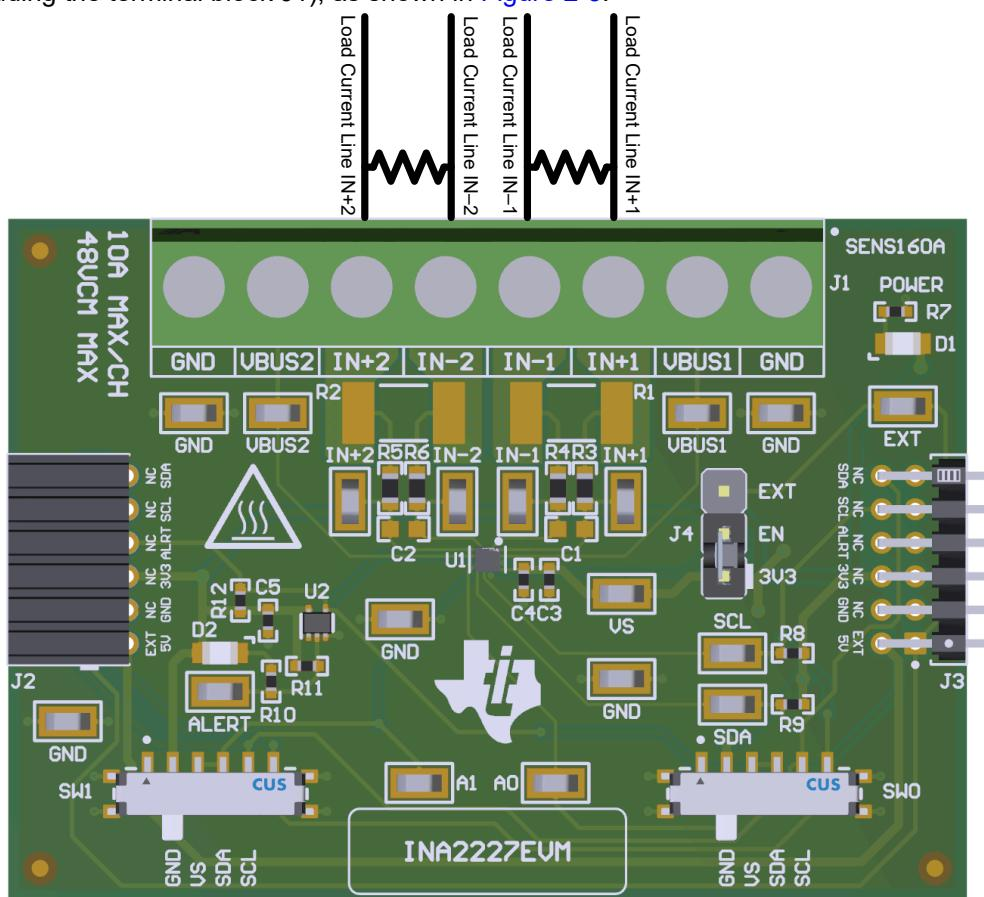

Figure 2-3. IN+ and IN- Wiring for More Than 10A
- b. Connect an external shunt across the IN+ and IN- terminals of J1 as shown in Figure 2-3.
- a. When measuring more than 10A, verify that the high current path does not go through the EVM (including the terminal block J1), as shown in Figure 2-3.